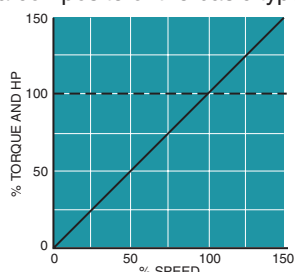

Figure 20. Constant Torque
1. Constant Torque (Figure 20)